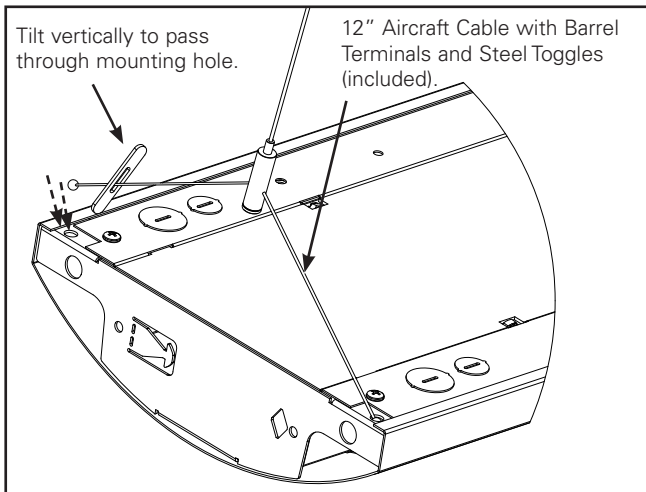

Figure 1.
1. Insert Barrel Terminal into corner hole. (Figure 1.)